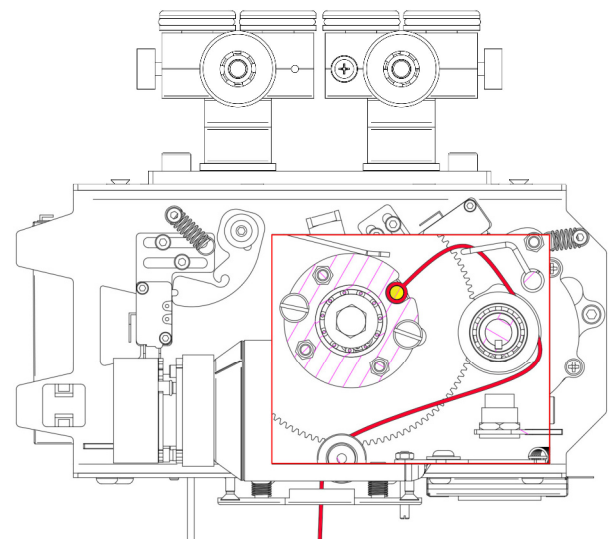

Figure 8, Lifting Tape guide
11. Push the new Lifting Tape through the opening and guide it to the roll axle through the Battery space as shown in *Figure 8* (red line).